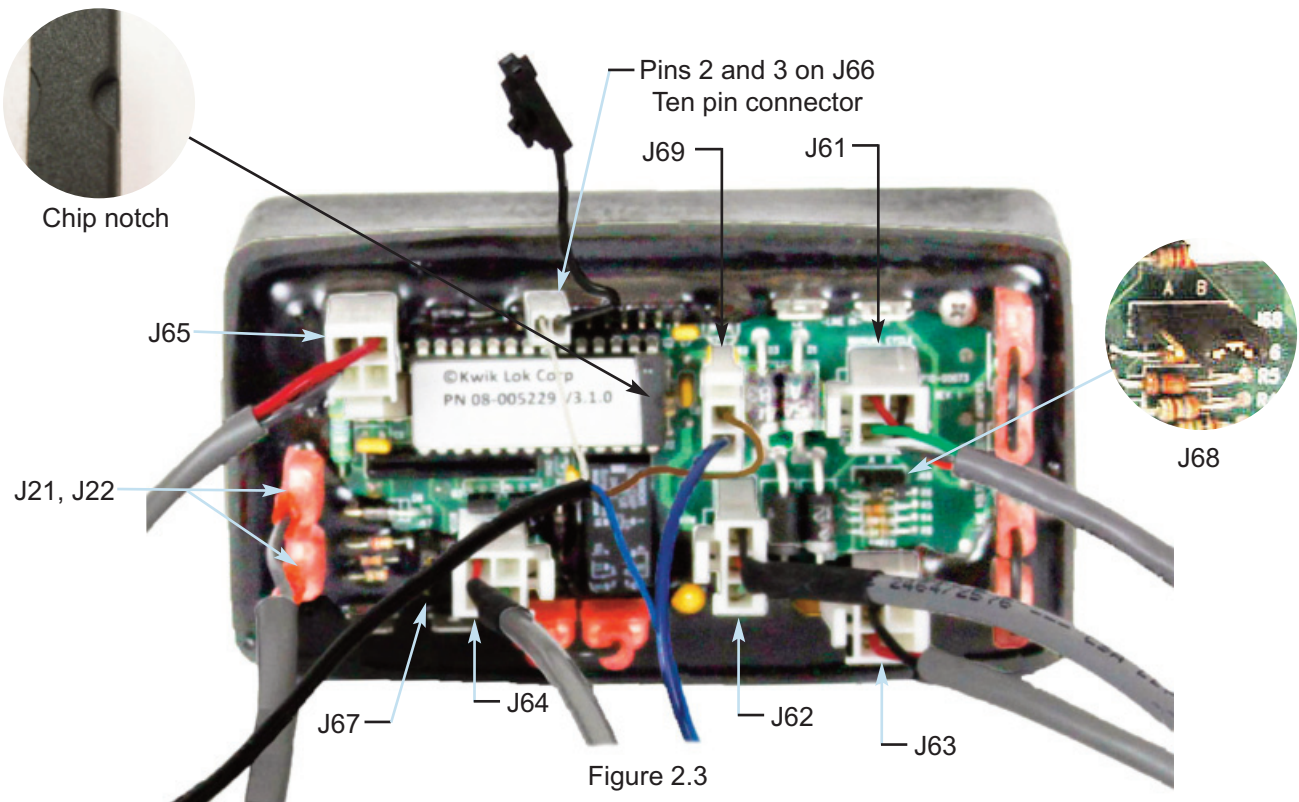

Figure 2.3
4. Carefully install the new IC chip in the module. The notch in the chip should be oriented as shown in Figure 2.3. The pins on the chip may need to be bent slightly to align with the chip mount. Press the chip straight into the mount. Use caution to avoid damage to the chip or the chip mount.
When the switch is closed it sends a signal to terminal J63 on the solenoid module (See SECTION II INSTALLATION Figure 2.3) For each two times the signal is detected the module closes an internal relay, connecting pins one and two on the solenoid module terminal J65. This provides a print signal to the 883N printer. If the printer is ready to actuate (the green status light is on) the printer cycles once and prints on two closures at the same time.